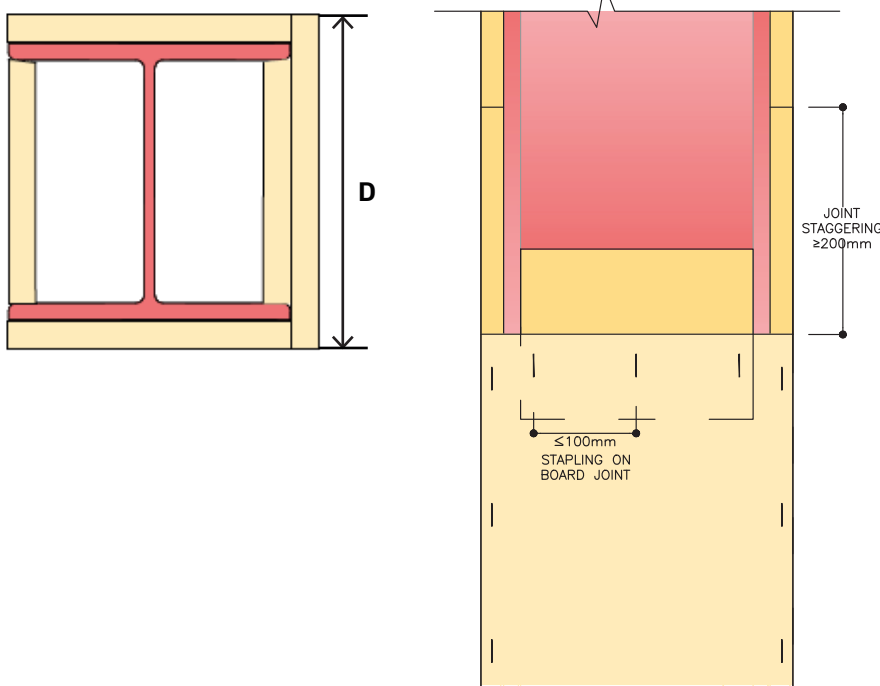

Figure 14: Plan and Elevation view of Universal Steel Column with installed Knauf Fireboard
- 3. Install Knauf Fireboard as shown in figure 14. The depth (D) of Knauf Fireboard is determined by measuring the depth of the Universal Steel Column and the inclusion of already installed Knauf Fireboard.
- 3. Install Knauf Fireboard as shown in figure 14. The depth (D) of Knauf Fireboard is determined by measuring the depth of the Universal Steel Column and the inclusion of already installed Knauf Fireboard